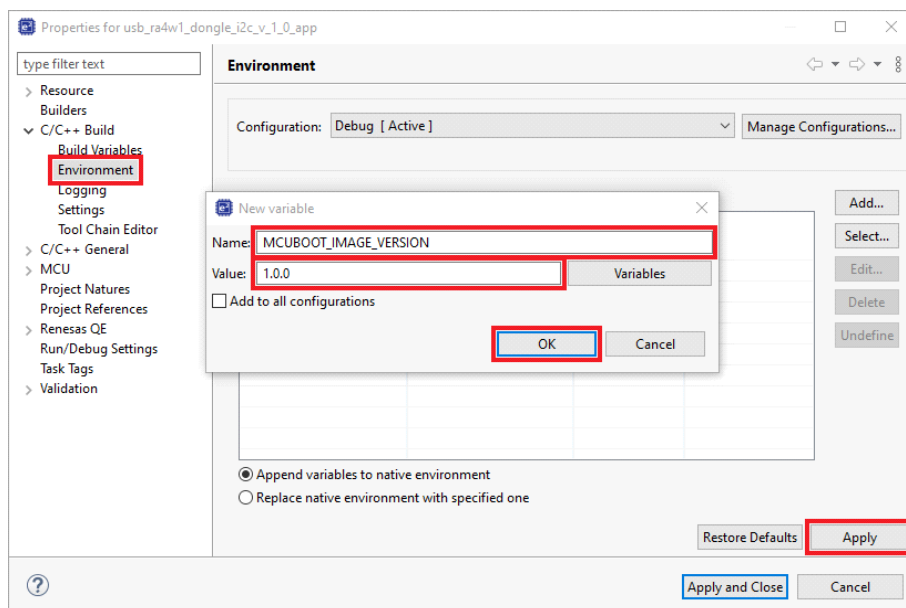

Figure 26. Adding a Project Version Number
- a. In the **Name** field, enter MCUBOOT_IMAGE_VERSION and set **Value** to the actual application project version number (Figure 26).